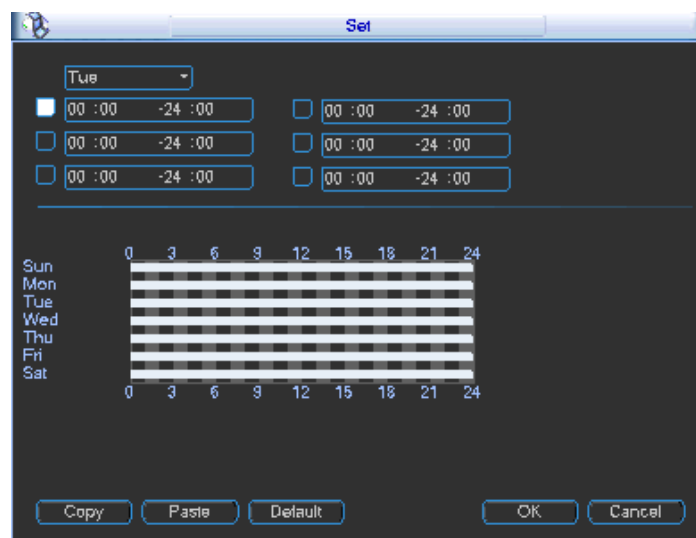
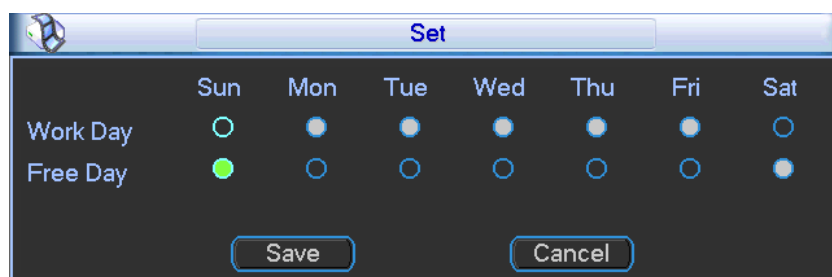

Figure 3-51
Figure 3-52
- Period: Click set button, you can see an interface is shown as in Figure 3-51. Here you can set for business day and non-business day. In Figure 3-51 click set button, you can see an interface is shown as in Figure 3-52. Here you can set your own setup for business day and non-business day.